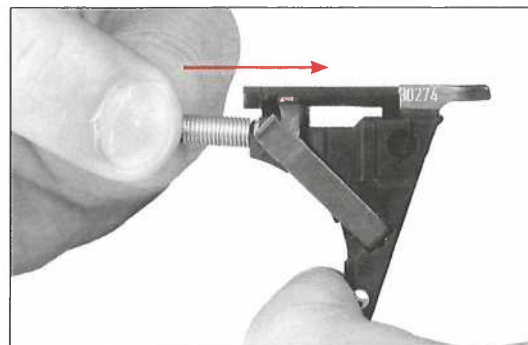

Fig. 76
- Separate the trigger mechanism housing from the trigger spring by “unhooking” the end of the “S” shaped coil trigger spring. (Fig. 76/77)